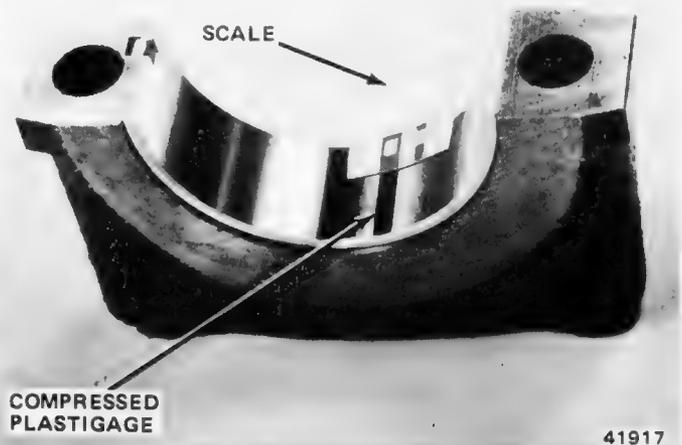

Fig. 1B-62 Checking Main Bearing Clearance with Plastigage
- (1) Remove main bearing cap and insert.
- (2) Clean insert and exposed portion of crankshaft journal.
- (3) Place strip of Plastigage across full width of bearing insert.
- (4) Install bearing cap and tighten screws to 79 newton-meters (58 foot-pounds) torque.
- (5) Remove bearing cap and determine amount of clearance by measuring width of compressed Plastigage with scale on Plastigage envelope (fig. 1B-62). The Plastigage should maintain the same size across the entire width of the insert. If size varies, it may indicate a tapered journal or dirt trapped behind the insert.